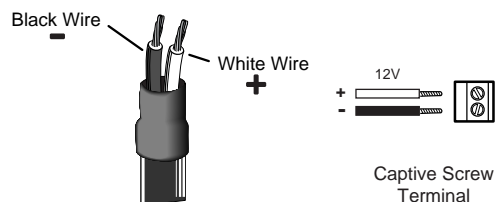

Figure 2-11 — Power connector wiring
2. Insert the external power supply (included) output wires into the 2-pole direct insertion captive screw terminal on the Extender board (figure 2-11) and secure the wires.